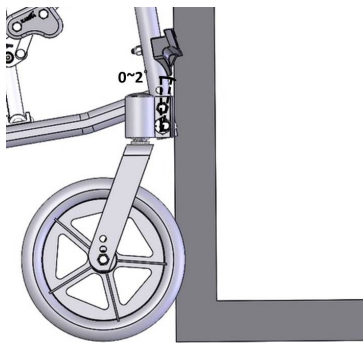

Figure 4.50
4.13.3 Rotate both forks so that the casters are towards the rear of the wheelchair. Place a square or pocket level against the flat surface on the rear of the fork and note whether this surface is vertical. If this surface is more than 2 degrees away from vertical, your casters require re-squaring. (See Figure 4.50)